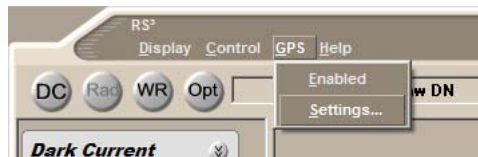

Figure 3-75: GPS pull-down menu
- Step 3 Open RS³, click on the GPS pull-down menu and select "Settings..." (Figure 3-75).